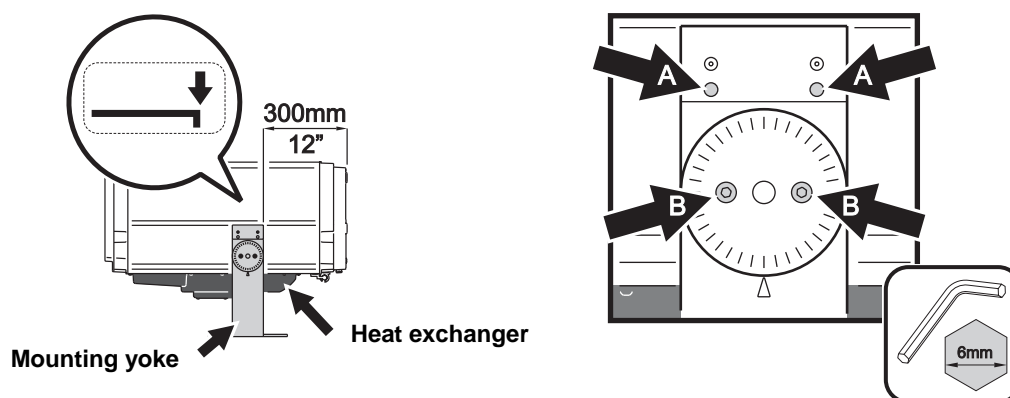
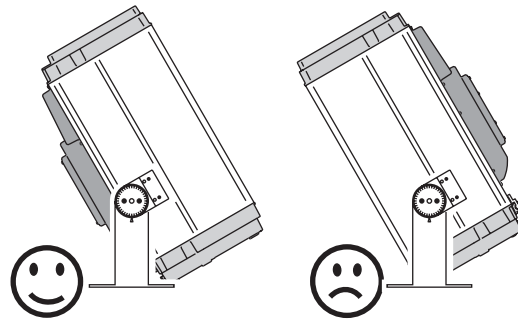

Figure 1: Mounting yoke adjustment
Figure 3:
See Figure 1. The mounting yoke is folded back for shipment. When the luminaire has been unpacked:
The Exterior 1200 Wash is rated UL Wet Location. When choosing a location for installation, consider that the main housing has an ingress protection (IP) rating of 65, but that the heat exchanger unit must be protected from rain or direct water projections that might fill the heat exchanger with water and cause overheating. The luminaire may therefore be installed in any orientation, but it must be positioned so that the heat exchanger is on the lower side of the luminaire (see Figure 3). If necessary, loosen the yoke tilt lock screws (**B** in Figure 1) and reposition the yoke.